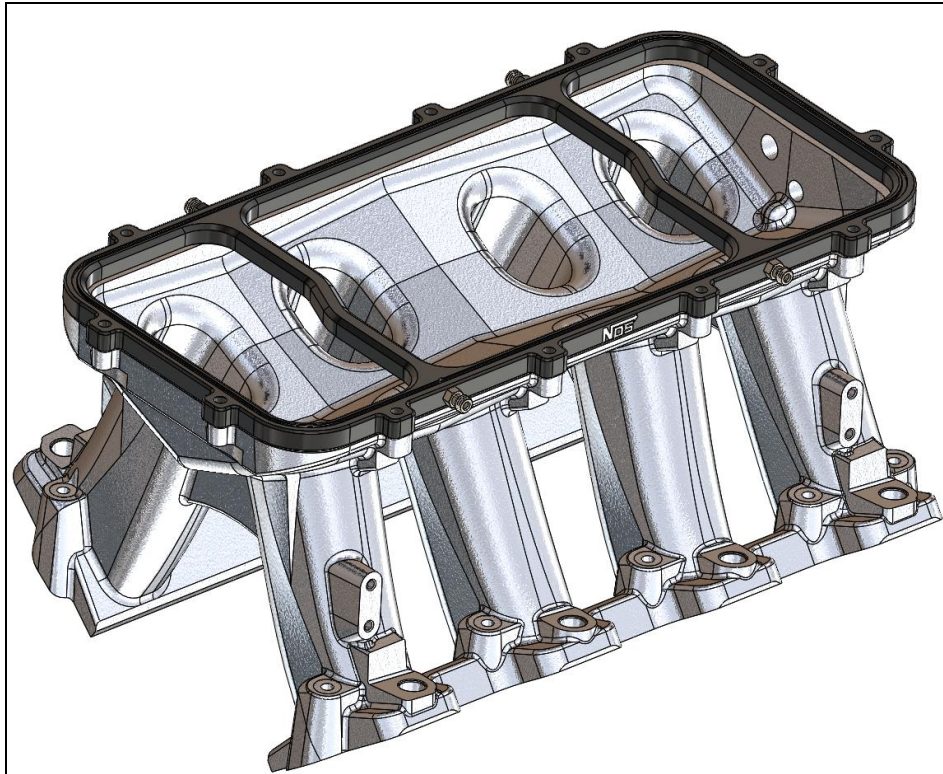

Figure 8 – Nitrous Plate Installation
6. With the NOS logo facing up plate the NOS Hi-Ram Nitrous Plate onto the top of the manifold base as shown in Figure 8.